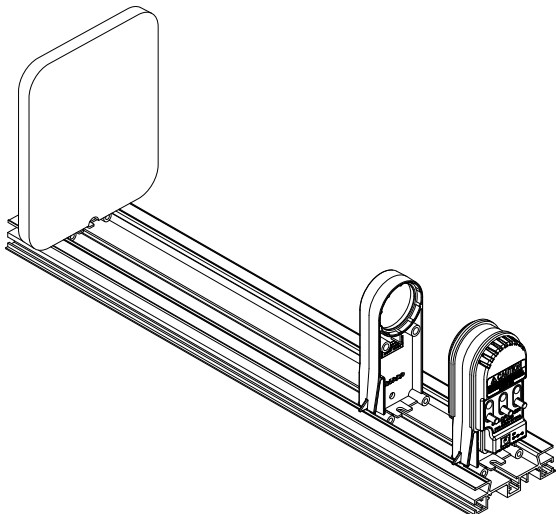

Figure 2
1. Mount the Color Mixer at one end of a PASCO optics bench, as shown in Figure 2. To do so, place the component's base onto the bench and push down firmly to snap the Color Mixer into place.